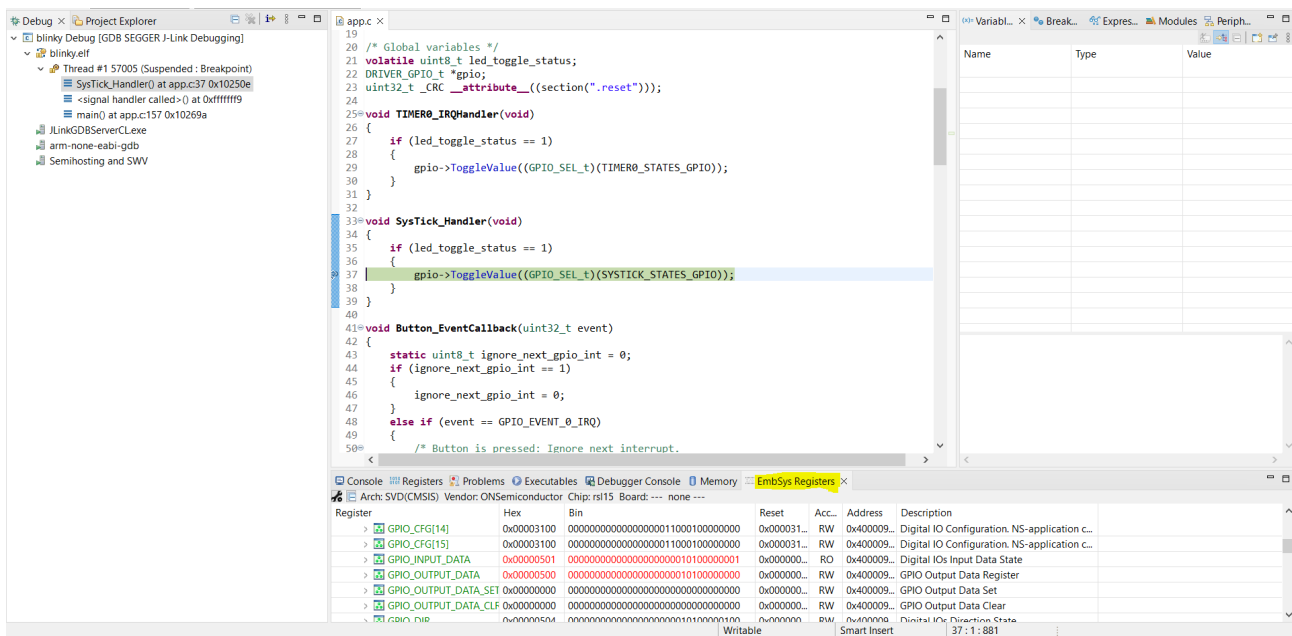

Figure 20. Marking a Register Group for Monitoring
**NOTE:** To mark a group of registers at the same time, double click on the parent of a register group; this marks all its child registers for monitoring, as shown in the figure "Marking a Register Group for Monitoring" \(Figure 20\).